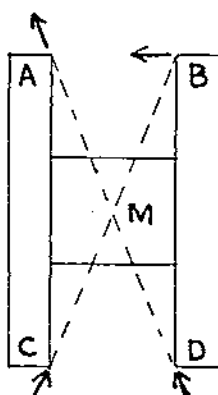

Fig. 4. Turn to Port.
Only two men need to be really good watermen—the commander and the steersman (B). Even the steersman's task can be simplified, for if the raft is loaded, its reactions are slow. The steersman, therefore, can be restricted to two applications of helm—hard to port (Fig. 4) or hard to starboard. The commander can judge when to reverse him to check the swing, and then return him to centre.